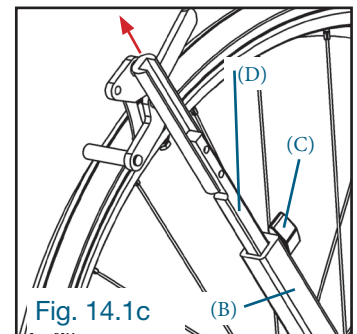

Fig. 14.1c
Slightly loosen the tightening knob (C) and completely remove the square rod (D) from the lock. Repeat this step for the lock on the other side. (Fig. 14.1c)